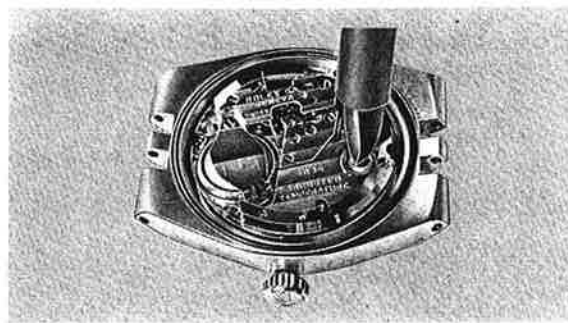

Fig. 7
- Effect the correction by turning the trimmer screw (Fig. 7) in the desired direction with the ROLEX screwdriver Ref. 2023. Do not press down too hard on the trimmer.